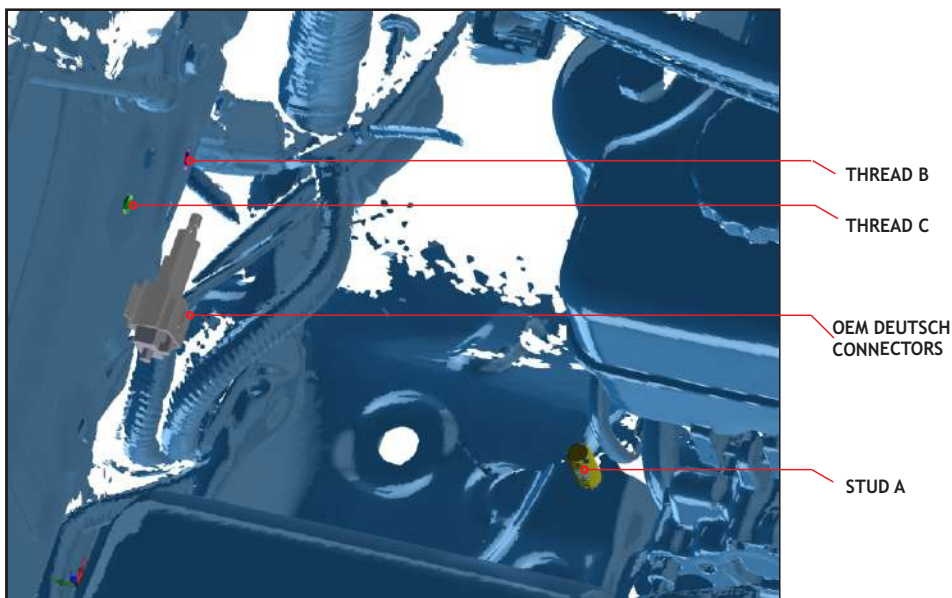

FIG. 7A CATCHCAN BRACKET INSTALLATION AREA
2. Starting at the driver's side rear corner of the engine bay, locate Stud A in as shown in Fig. 7a.